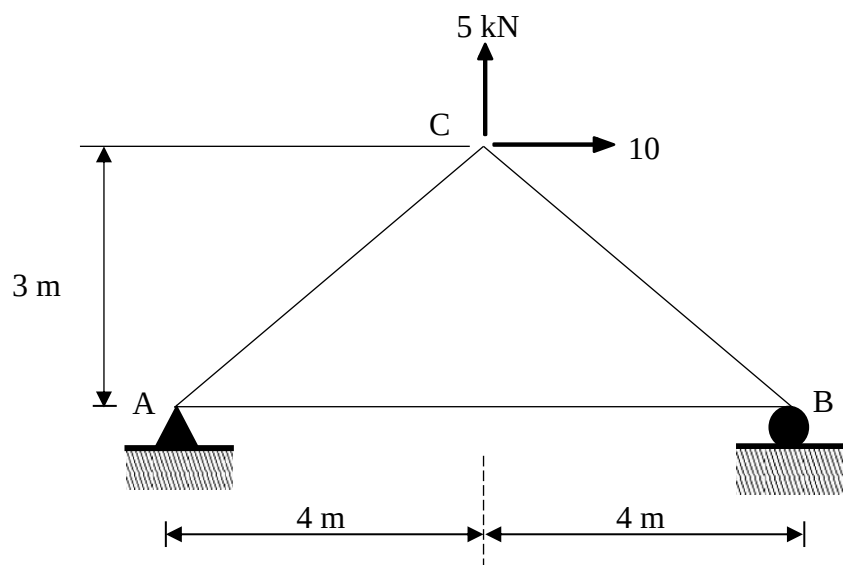

Figure 3(b) / Rajah 3(b)
- CLO2 (c) Analyze the internal force in each member of the truss in Figure 3(b) by using the Method of Joint.